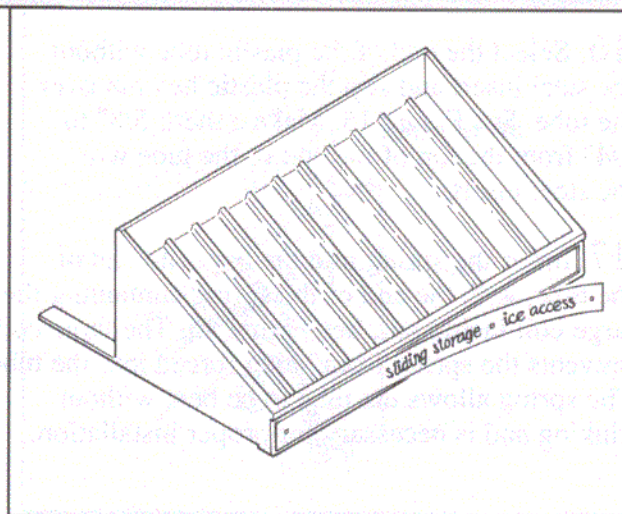

Figure 12
11. Select the decorator insert that best matches the interior of your refrigerator or freezer. Remove the protective paper from the adhesive back of the insert and stick the insert onto the front face of the storage tray, starting at one end of the insert and carefully working to the other end. See Figure 12.